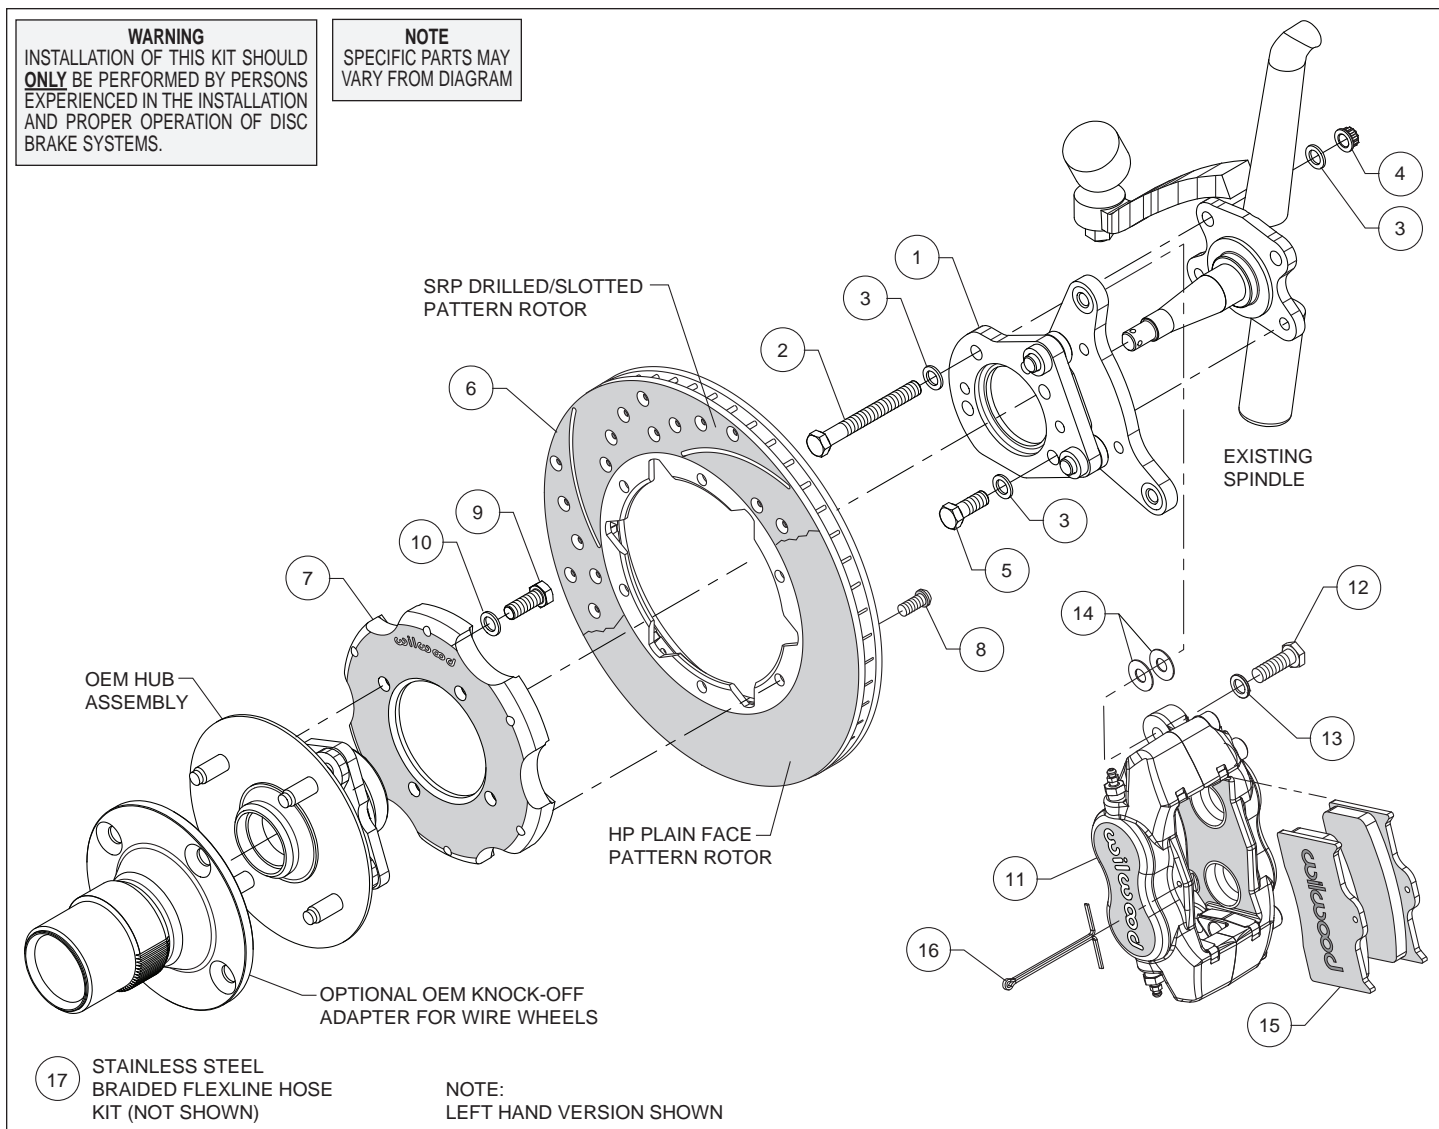
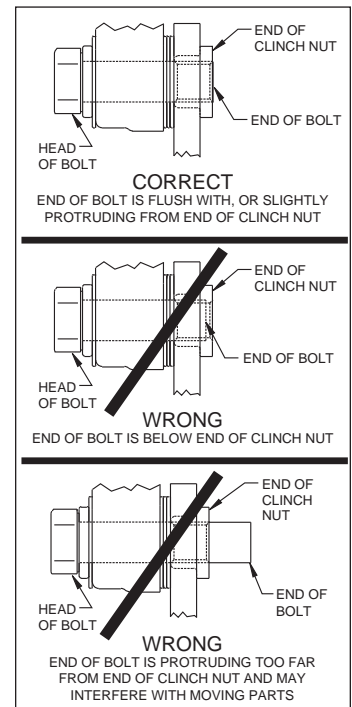

Figure 1. Typical Installation Configuration
Figure 3. Clinch Nut Engagement Diagram
**Assembly Instructions** (numbers in parenthesis refer to the parts list and Figure 1 on the preceding pages): **CAUTION:** All mounting bolts must fully engage clinch nuts. Be sure to check that all bolts are either flush or protruding through flanged side of clinch nut after shimming, Figure 3.
- Orient the caliper mount bracket (1) as shown in Figure 1 and Photo 1, and install using bolts (2), washers (3) and nuts (4) on the upper bracket mounting holes. Install bolts (5) and washers (3) on the bottom bracket mounting holes. Ensure that the flanged heads of the clinch nuts in the bracket are facing outboard, Photo 1. Temporarily tighten the mounting bolts. **NOTE:** The bracket must fit squarely against the face of the spindle. Inspect for interference from casting irregularities, machining ridges, burrs, etc. Torque locknuts (4) to 30 ft-lb. Remove lower bolts (2) one at a time, apply red *Loctite*® 271 to the threads and torque to 30 ft-lb.
- Orient the rotor (6) and the hat (7) as shown in Figure 1 and Photo 2. Attach rotor to hat using bolts (8). Using an alternating sequence, apply red *Loctite*® 271 to the threads, and torque to 25 ft-lbs.
- Orient the rotor/hat assembly (6 and 7) and the OEM hub assembly as shown in Figure 1. Attach rotor/hat to hub using bolts (9) and washers (10). **NOTE:** The hat must fit flush against the hub or excessive rotor run out may result. Apply red *Loctite*® 271 to the threads, and torque to 30 ft-lbs.
- Install the hat/rotor/hub assembly onto the spindle using OEM components assembled in the reverse order as disassembly, Photo 3. Snug down the spindle nut and check for interference between the bracket (1) assembly bolts protruding thru the clinch nuts and the hat/hub mounting bolts (9) hex heads. Once fitment has been confirmed, adjust bearings per OEM specifications.
- **NOTE:** Please reference the caution statement at the beginning of the assembly instructions. Mount the caliper (11) onto the caliper mounting bracket (1) using bolts (12) and washers (13), as shown in Figure 1. Initially place two .035" thick shims (14) on each bolt between the caliper and the bracket, Photo 4. Temporarily tighten the mounting bolts and view the rotor (6) through the top opening of the caliper. The rotor should be centered in the caliper, Photo 5. If not, adjust by adding or subtracting shims (14) between the bracket and the caliper. Always use the same amount of shims on each of the two
mounting bolts. **NOTE:** The end of each bolt must be flush with or slightly protruding from the head of the clinch nut, as shown in Figure 3. If necessary place spare shims between washer (13) and caliper mounting ear to achieve the proper clinch nut engagement. Once the caliper alignment and clinch nut engagement are correct, remove the bolts (12) one at a time, apply red *Loctite*® 271 to bolt threads, and torque to 40 ft-lb.